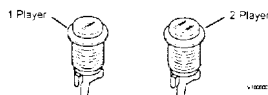

Figure 3: Start Buttons
17. Notice that there are two white buttons. See figure 3. The WHITE buttons are START buttons. Install the ONE player button on the top left-hand side of the control panel, and the TWO player button on the top right-side of the control panel.
18. Install all buttons and retaining rings on the control panel as shown in Figure 3. Install two red buttons to the immediate right of each joystick, install two green buttons to the right of the red ones, and install two blue buttons to the right of the green ones.